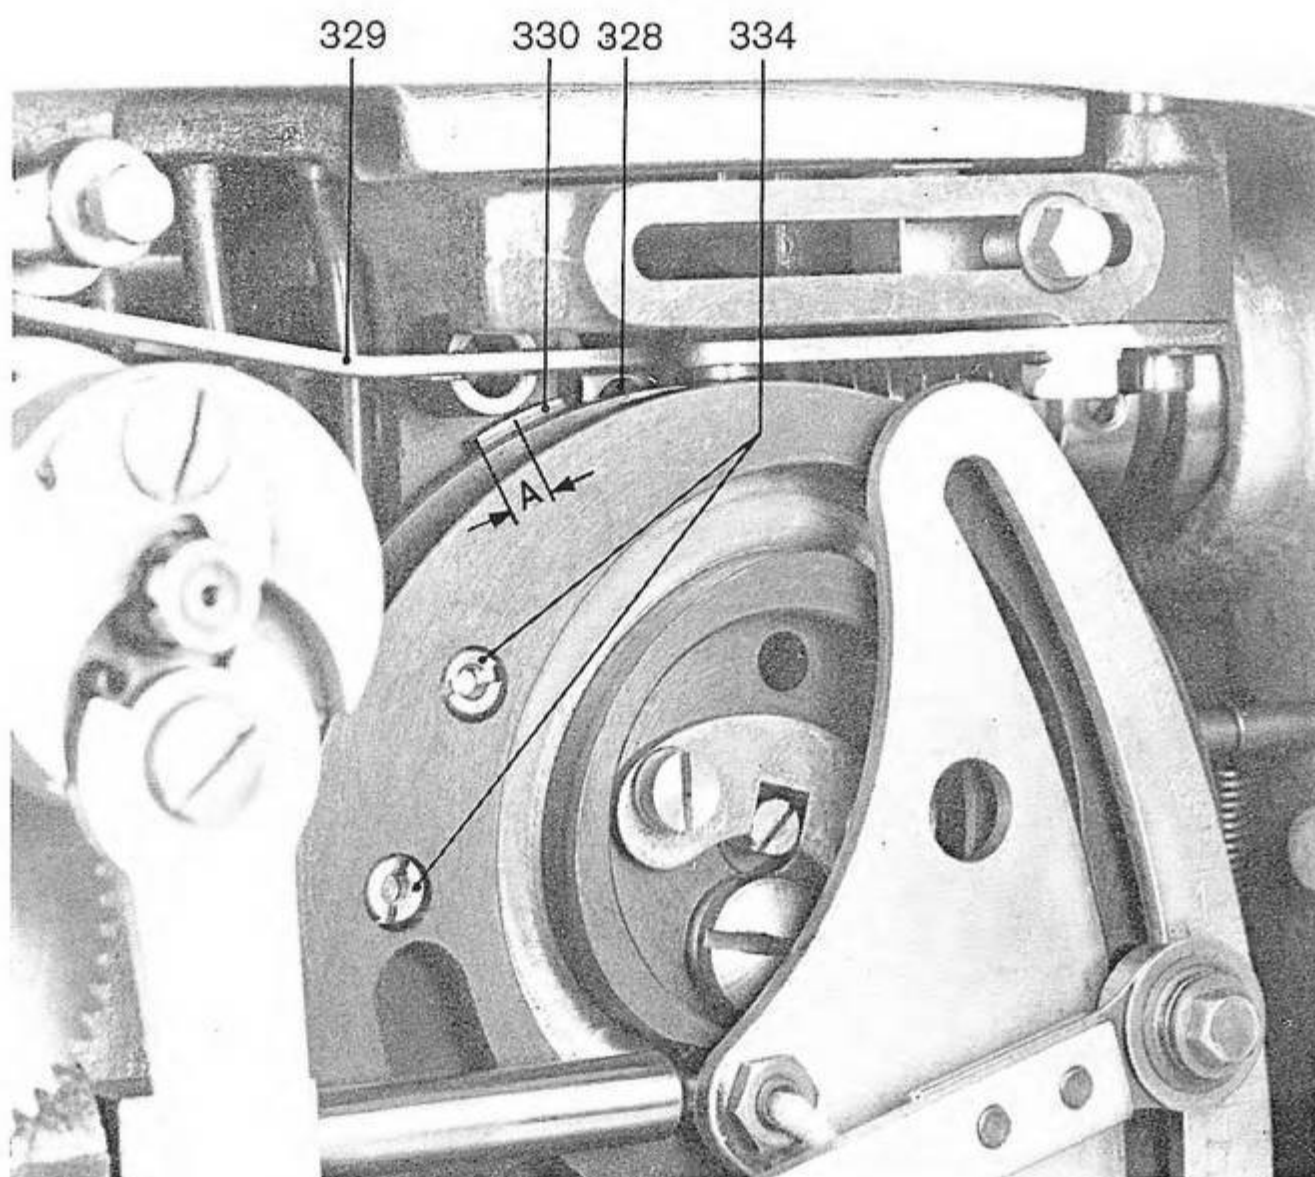
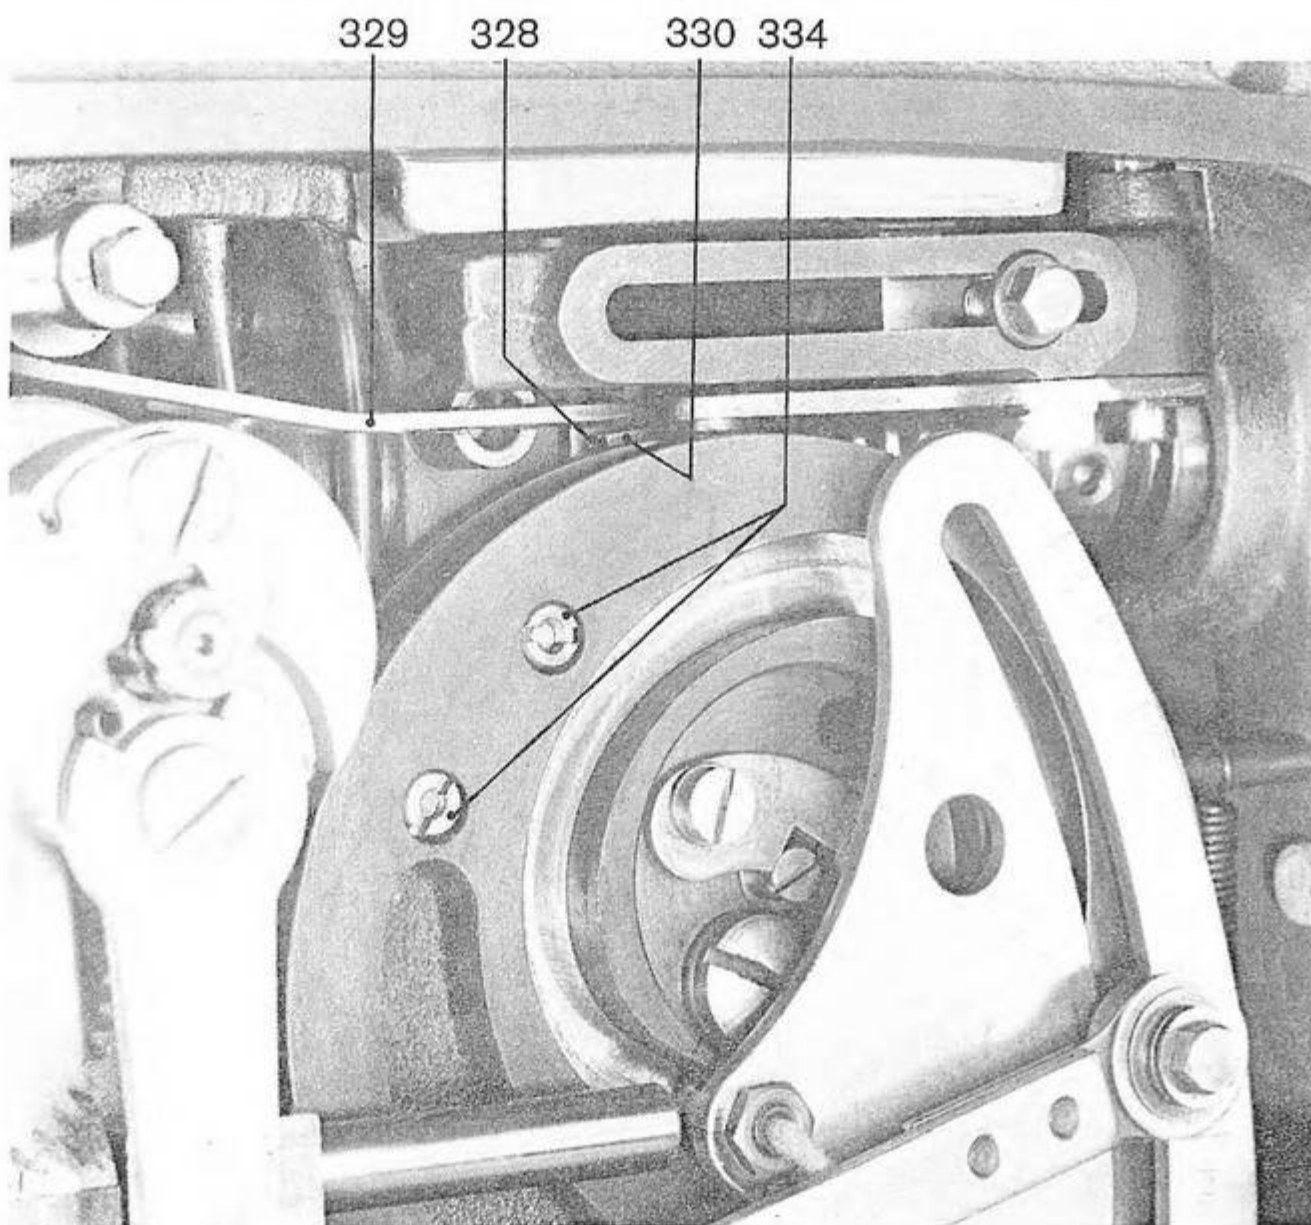

Fig. 74
Fig. 76
3. Turn the crank 1 until the machine is in the position in which the cam 328 (fig. 74) of the releasing lever 329 is about in the centre of the releasing plate 330.
The moment in which the tension is released is determined by the position of the plate 330 (fig. 74) on the cam.
With the disengagement adjusted according to the item a) of the present chapter and when the machine, driven by motor, has stopped in its final position, adjust the releasing plate 330 so that the cam 328 stands on the left hand half (zone "A", fig. 74) of the releasing plate 330. See fig. 76.
The releasing plate 300 can be adjusted accordingly after loosening the nuts 334 (figs. 74 and 76).
If with the releasing plate 330 (figs. 74 and 76) adjusted according to the above instructions the stitch pattern is not proper, set the releasing plate 330 so that when starting to sew a buttonhole the main tensioner is closed as soon as possible and in the final position of the machine it is still opened.